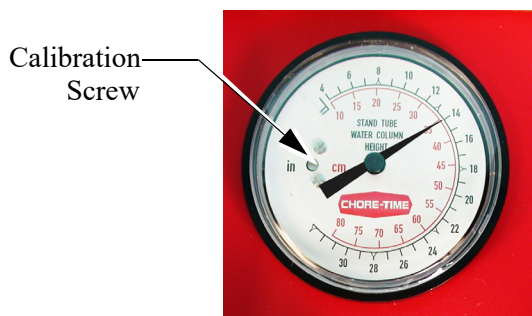

Figure 22. Water Column Gauge
- Pop off plastic cover and turn calibration screw till arrow points to 14" (See Figure 22.). Re-attach Cover.
- Watch the air pressure gauge on the control (See Figure 22.). The gauge should not drop any more than 2 psi [13.79 kPa] in 1 minute.